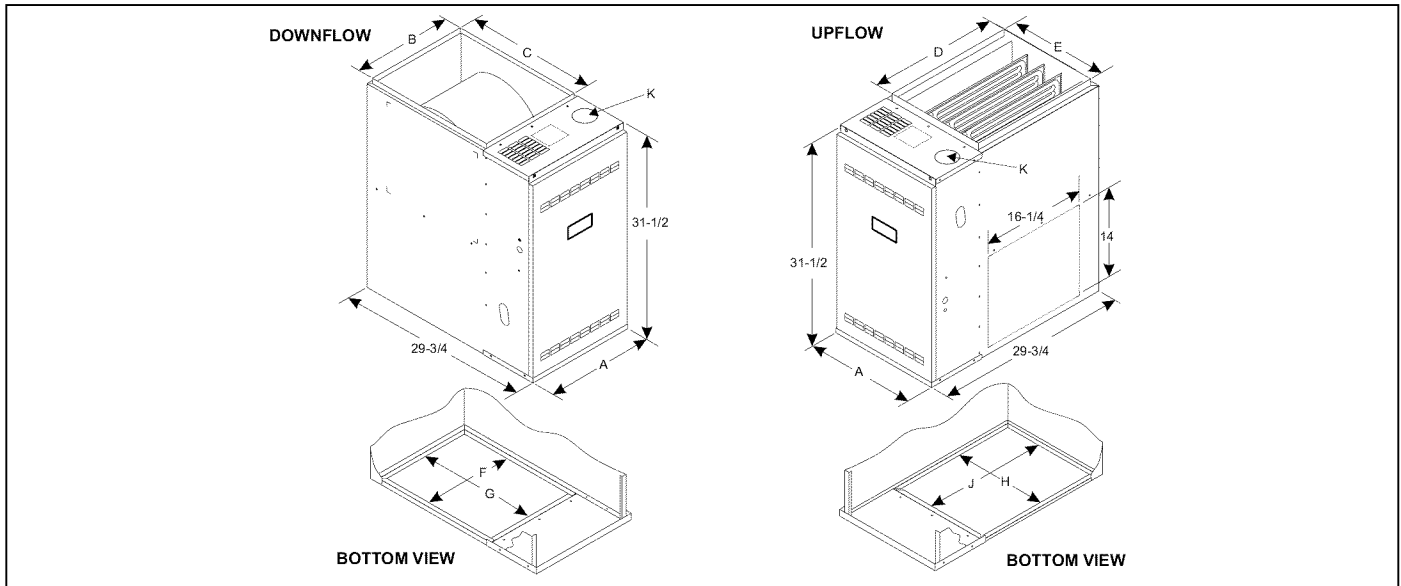

FIGURE 5: Dimensions
Some accessories such as electronic air cleaners and pleated media may require a larger side opening. Follow the instructions supplied with that accessory for side opening requirements. Do not cut the opening larger than the dimensions shown in Figure 5.
- Install the external filter box to the side of the cabinet and secure to the cabinet as specified in the instructions provided with the air filter kit. If a side return is to be used, cut out the side of the casing 14" high by 16 1/4" wide using the lances in the casing side as a guide. **DO NOT CUT THE OPENING LARGER THAN 14" X 16 1/4"**. It is not permissible to cut out the back of the furnace. For bottom returns you place the external filter box between the return air plenum and the base of the furnace. The casing bottom is embossed to indicate where to bend the flanges. Refer to Figure 5 for the maximum return air opening sizes. Seal this connection to prevent leaks.
Do not cut the opening larger than the dimensions shown in Figure 5.